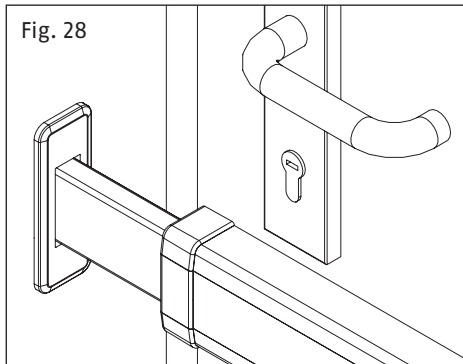

Fig. 28
- Lock the door bar onto the wall until the end stop. Mark out the attachment points (1.) of the wall strike plate. Close back the door bar (Fig. 28).